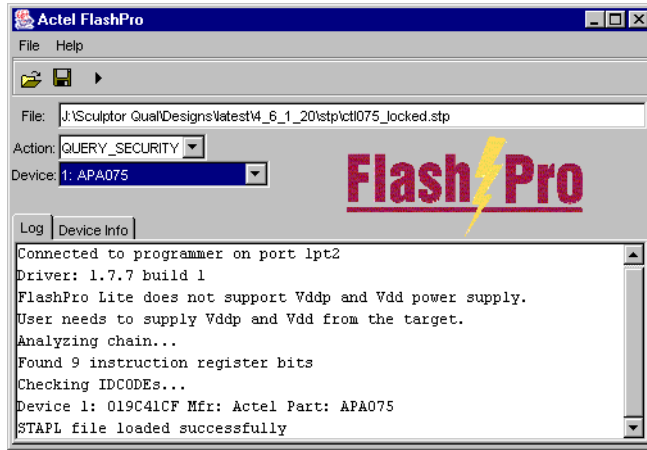

Figure 3-6. STAPL File Loaded Successfully
2. **Select your STAPL file and click Open.** The FlashPro software loads the file. The FlashPro Log window displays a message indicating that the software has successfully loaded the software. See Figure 3-6.